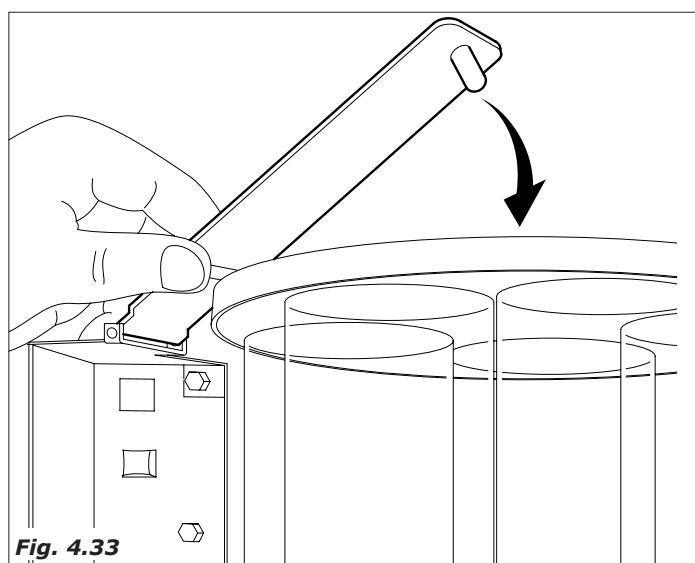

Fig. 4.33
- Put the cup turret's lid back on and snap in the spring band (Fig. 4.33).